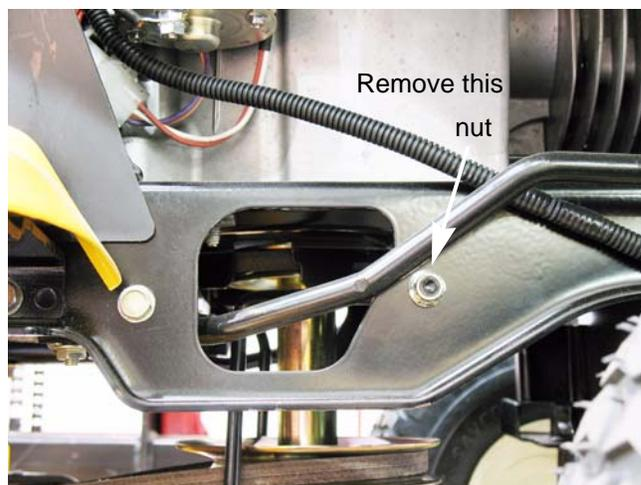

Figure 8.2
- B. Remove the nut that secures the belt guard to the right side of the frame using a 1/2" wrench. See Figure 8.2.